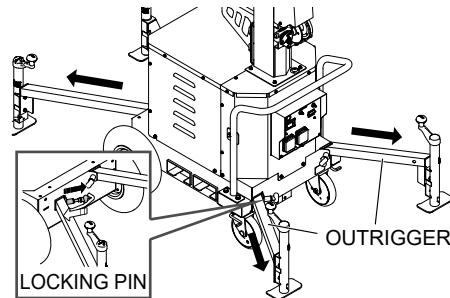

Figure 7. Extending Outriggers
2. Extend all the outriggers by pulling the locking pin on the outriggers and hold while sliding out the outriggers assembly (Figure 7).
3. As soon as the locking pin clears the travel position hole, release pin and continue sliding out the outrigger. When outrigger is in the extended position, make sure pin snaps into the outrigger locking hole (Figure 7).